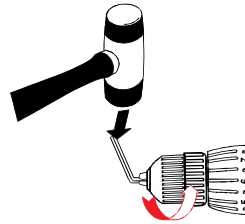

Fig. 13
7. Insert hex key into chuck and tighten jaws of chuck securely (Fig. 13). Tap the hex key sharply with a mallet in a COUNTERCLOCKWISE direction. This will loosen the chuck on the spindle. The chuck can now be unscrewed and removed from the spindle by hand.